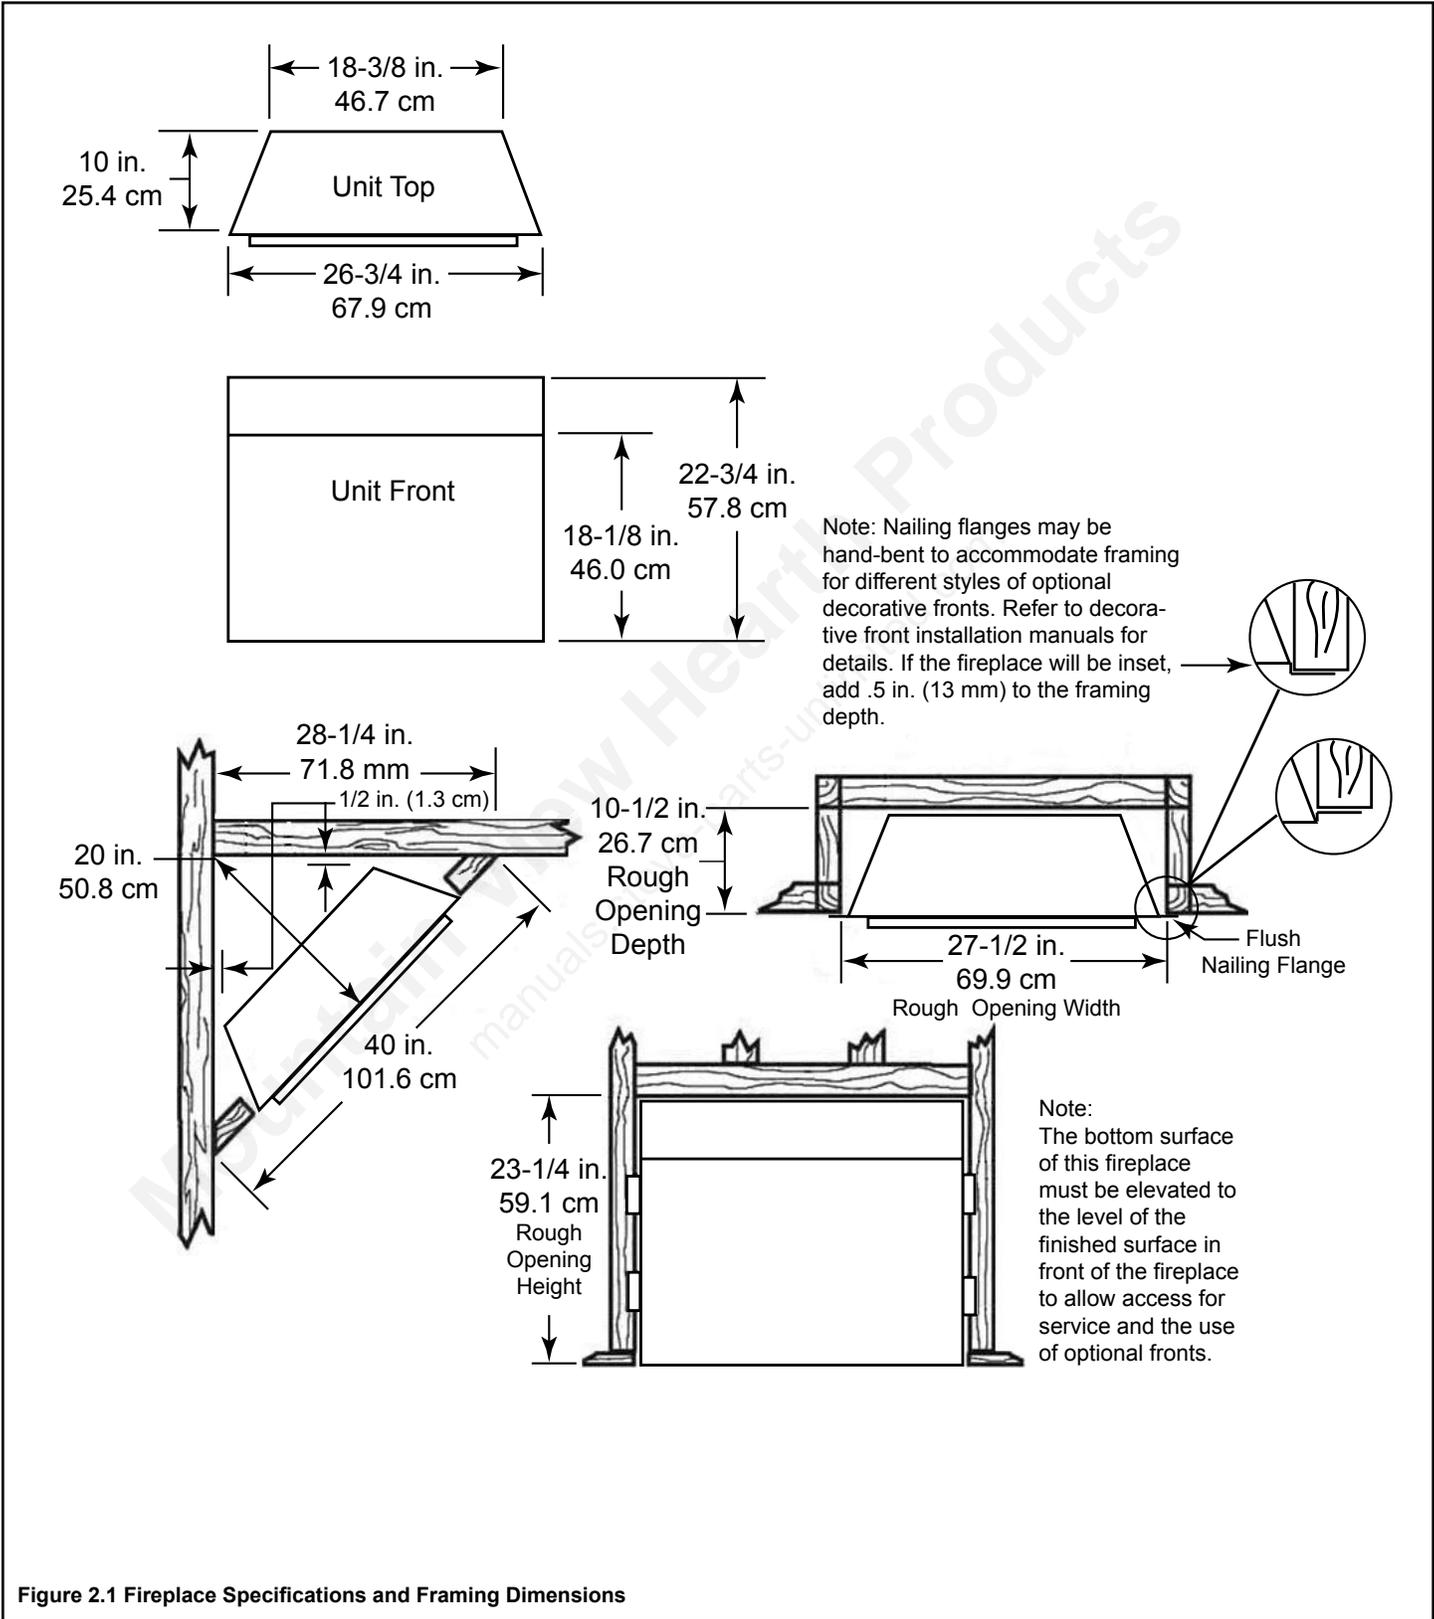

Figure 2.1 Fireplace Specifications and Framing Dimensions
- Choose a fireplace location and frame as shown in Figure 2.1.